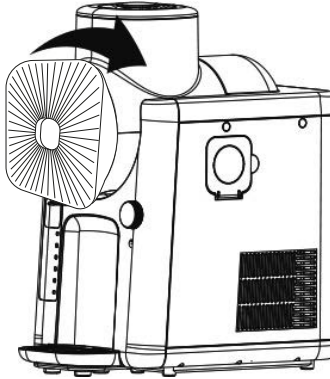

Fig. 3
9. Place the mixing container onto the mixer and lock it by turning it clockwise (Fig. 3).